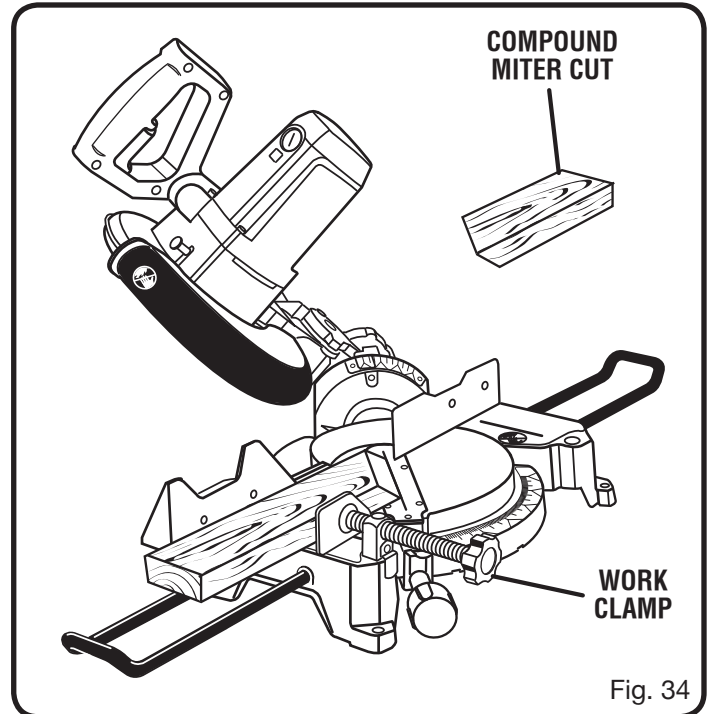

Fig. 34
See Figure 34.
- Slowly lower the blade into and through the workpiece. *See Figures 34 - 35.*